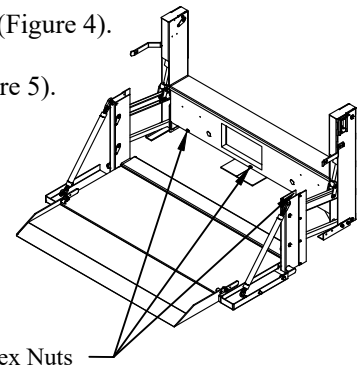

Figure 3: Assembled Liftgate
3. Remove the mainframe box cover by removing the three $\frac{5}{16}$ " hex nuts with a $\frac{1}{2}$ " wrench or socket (Figure 3).